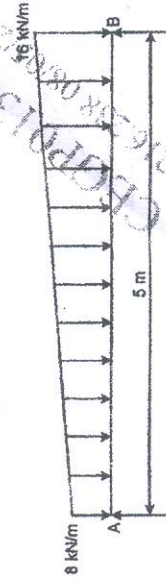

Fig. 3
5. a) A simply supported beam of span 5 m , intensity of loading increases uniformly from 8 kN/m at one end to 16 kN/m at the other end as shown in fig. 3. Find the position and magnitude of the maximum bending moment. Also Draw Shear Force & Bending Moment Diagram [6]